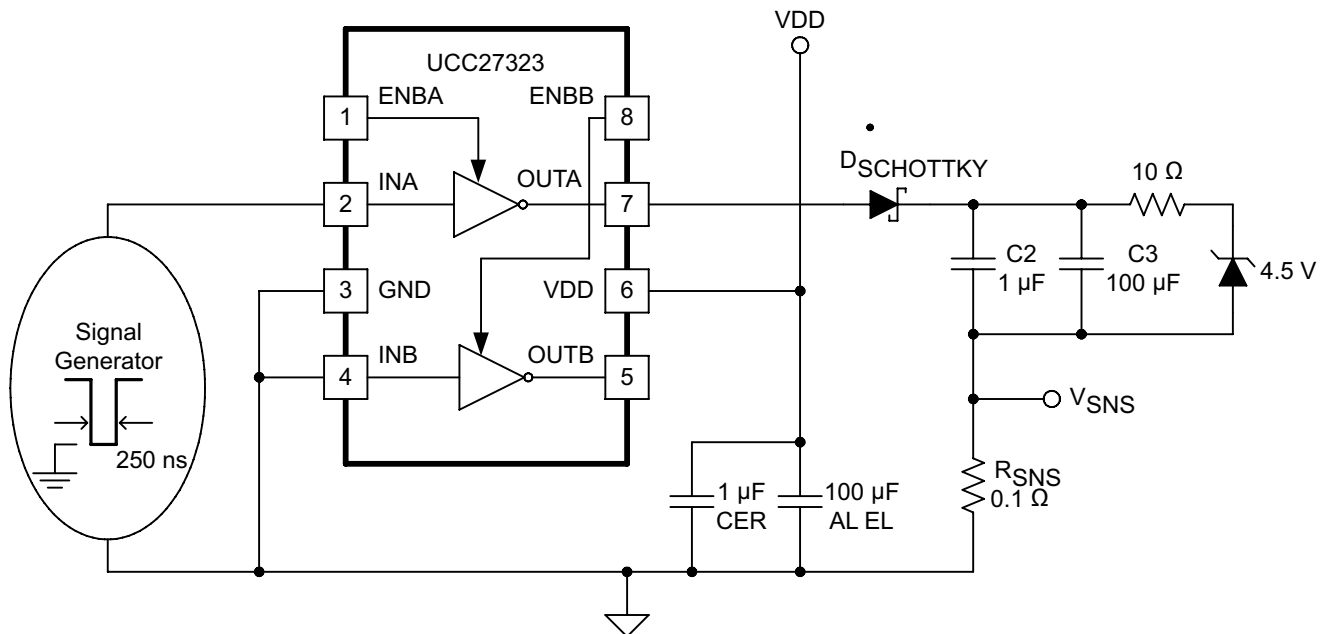
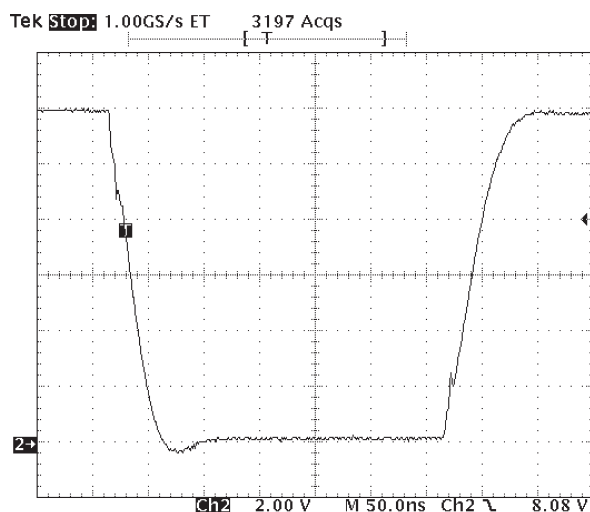

Figure 3.
Figure 5.
The circuit shown in Figure 3 is used to test the current source capability with the output clamped to around 5 V with a string of Zener diodes. The UCC37323 is found to source 4.8 A at $V_{DD} = 15$ V and 3.7 A at $V_{DD} = 12$ V.
Figure 5 shows the circuit performance achievable with a single driver (half of the 8-pin IC) driving a 10-nF load. The input pulse width (not shown) is set to 300 ns to show both transitions in the output waveform. Note the linear rise and fall edges of the switching waveforms which is due to the constant output current characteristic of the driver as opposed to the resistive output impedance of traditional MOSFET-based gate drivers.
- Changed D_{SCHOTTKY} diode direction and voltage of zener diode from 5.5 to 4.5 V in Figure 3 - Added three paragraphs after first paragraph of Operational Waveforms and Circuit Layout section before Figure 5	8 10